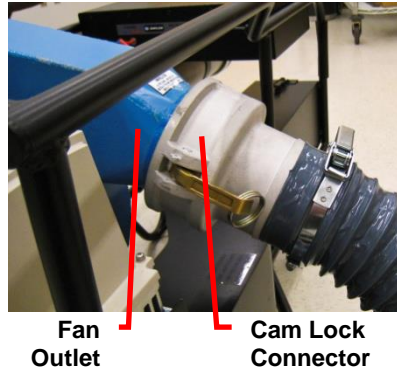
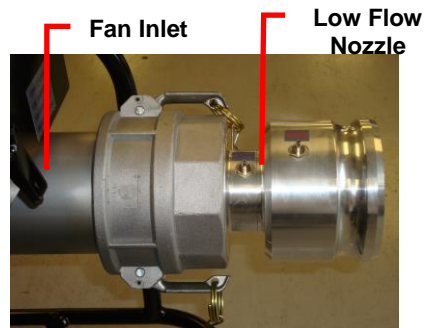

Figure 6. Positive Pressure, High-Flow Set-Up
Figure 7. Positive Pressure, Low-Flow Set-Up
- a. For positive pressure, high-flow testing, remove the low flow nozzle if it is installed. Then, connect the grey cast-aluminum cam lock connector to the outlet side of the blower per Figure 6. Close both cam lock arms at the same time to ensure proper fit.
- b. For positive pressure, low-flow testing, add the low-flow nozzle to the blower inlet if it is not installed per Figure 7. Then, connect the grey cast-aluminum cam lock connector to the outlet side of the blower per Figure 6. Close both cam lock arms at the same time to ensure proper fit.
3. Connect the (+) port on the Model PVM620 to **P3 (+)** to measure the duct static pressure (see Figure 6).